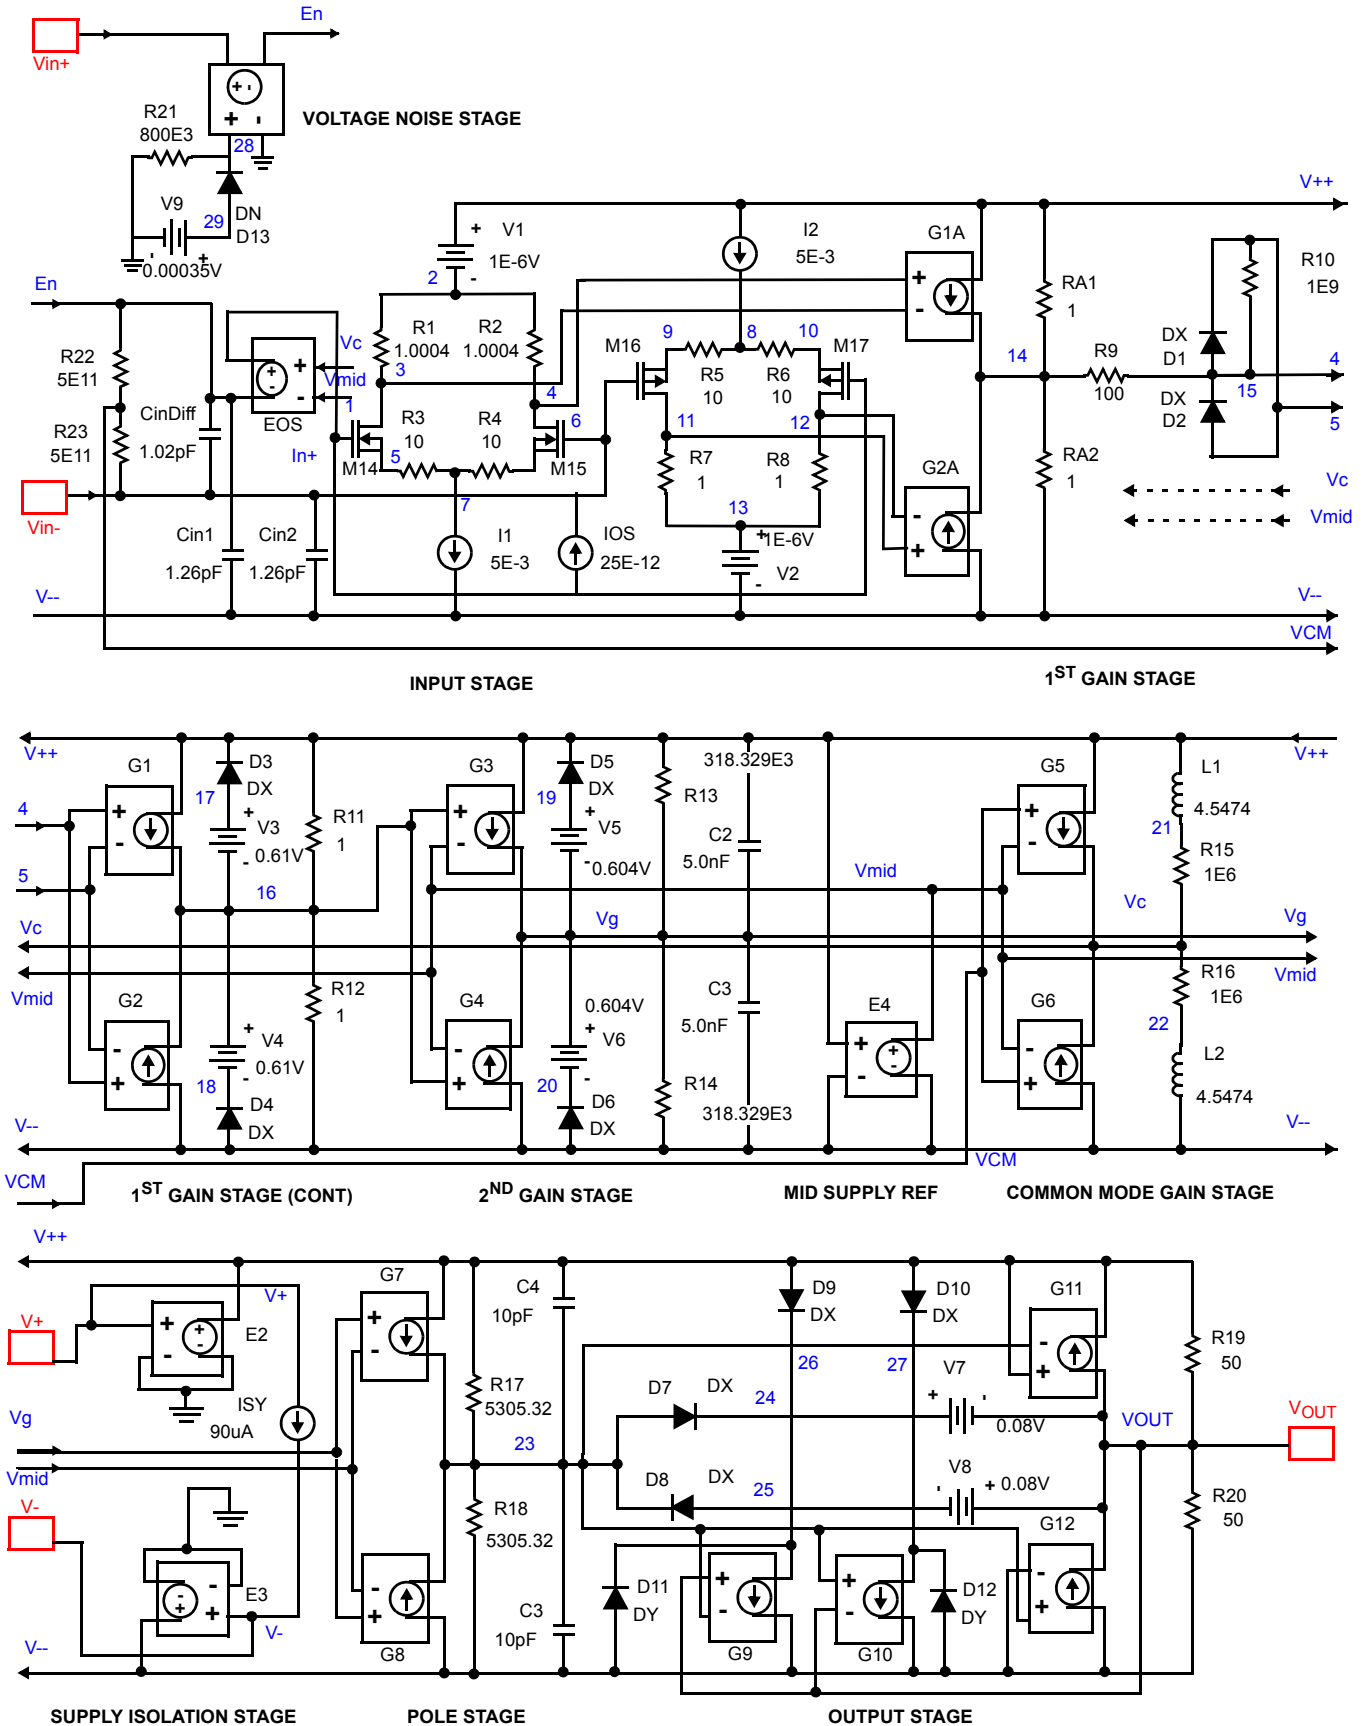
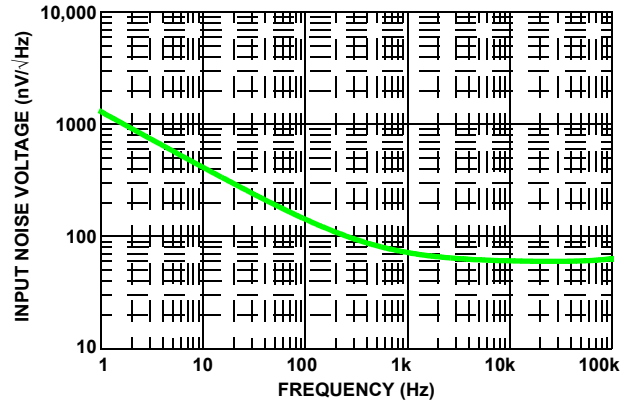

FIGURE 21. SPICE SCHEMATIC
FIGURE 24. SIMULATED INPUT NOISE VOLTAGE
Figure 21 shows the SPICE model schematic and Figure 22 shows the net list for the SPICE model. The model is a simplified version of the actual device and simulates important AC and DC parameters. AC parameters incorporated into the model are: 1/f and flatband noise, Slew Rate, CMRR, Gain and Phase. The DC parameters are IOS, total supply current and output voltage swing. The model uses typical parameters given in the “Electrical Specifications” Table beginning on page 4. The AVOL is adjusted for 85dB with the dominate pole at 100Hz. The CMRR is set 72dB, $f = 35kHz$. The input stage models the actual device to present an accurate AC representation. The model is configured for ambient temperature of +25°C.
| 3/23/10 | FN6728.4 | <p>Page 1, 2nd paragraph - Added "...SOT23-8 packages..." and changed "S08" to "SOIC8". Also global, changed S08 to SOIC8</p> <p>Pg 2, Ordering Information table: Part # ISL28213FEZ changed to ISL28213FHZ and Part Marking changed to "TBD"</p> <p>-Added Related Literature on page 1, updated ordering information by adding Eval boards. -Added to ordering information part number ISL28213FHZ 8 Ld SOT-23 Package as coming soon. -Replaced Figure 24 Simulated Input Noise Voltage with following changes: Y-axis from "10 to 100" to "10,000 to 10" Removed (A) AC sims.dat (active) from top of graph Curve changed to improve noise performance Made changes to Spice Net List as follows: -Changed Revision from "C" to "D" and added improved noise performance to Revision line. -Changed in Voltage Noise "V_V9 29 0 .00035" to "V_V9 29 0 0.45" "R_R21 28 0 800E3 TC=0,0" to "R_R21 28 0 30" -Removed TC=0 in Input Stage from R_R1 through C_Cin2 -Removed TC=0 in 1st Gain Stage from R_R9 through R_R12 -Removed TC=0 in 2nd Gain Stage from R_R13 through C_C3 -Changed in Common Mode Gain Stage with Zero "G_G5 V++ VC VCM VMID 2.5118E-10" to "G_G5 V++ VC VCM VMID 0.25118" "G_G6 V- VC VCM VMID 2.5118E-10" to "G_G6 V- VC VCM VMID 0.25118" Removed TC=0 from R_R16 through R_R23 -Changed in Pole Stage "G_G7 V++ 23 VG VMID 188.49e-6" to "G_G7 V++ 23 VG VMID 0.18849" "G_G8 V- 23 VG VMID 188.49e-6" to "G_G8 V- 23 VG VMID 0.18849" Removed TC=0 from R_R17 through C_C5 Removed TC=0 in Output Stage with Correction Current Sources from R_R19 and R_R20 Made changes to Spice Schematic Figure 21 as follows: -Input Stage - Modified connection to the EOS (voltage control voltage source) -Added to Thermal Information 8 LD SOT-23 as TBD -Added to pin configuration for the ISL28213 8 Ld SOT-23</p> |